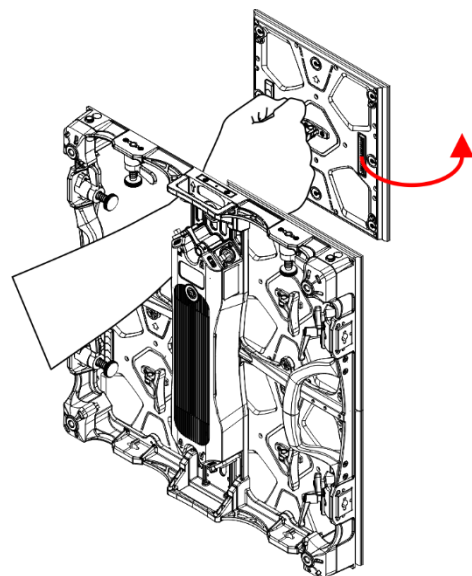

Fig. 66
- 03) While holding the LED screen module by the **service handle (15)**, turn the LED screen module carefully sideways and remove it from the backside of the **cabinet frame (18)**, as shown in Fig. 66.